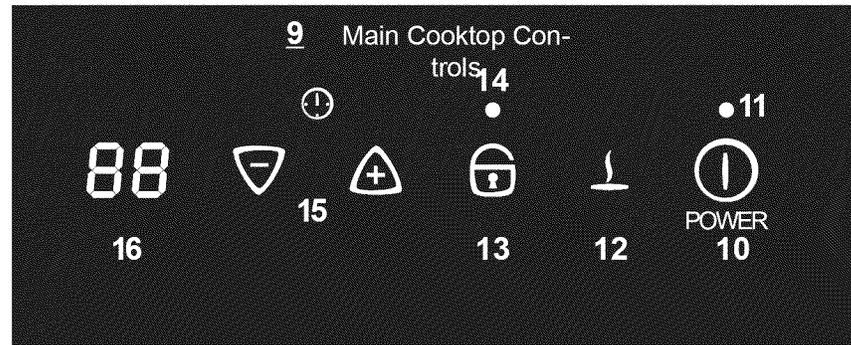

Fig 2.
9. Main Cooktop Controls (See Fig 2).
- 9. Main Cooktop Controls (See Fig 2).